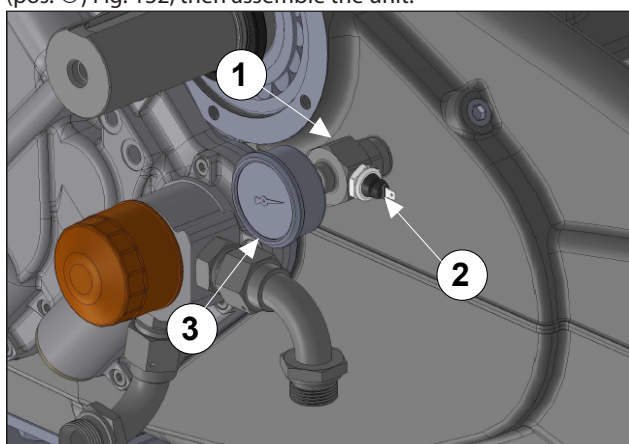

Fig. 133
Use LOX-EAL 53-14 fitting sealant or similar to smear on the Tee fitting (pos. ①), the plug (pos. ②) and the pressure gauge (pos. ③) Fig. 133, then assemble the unit.